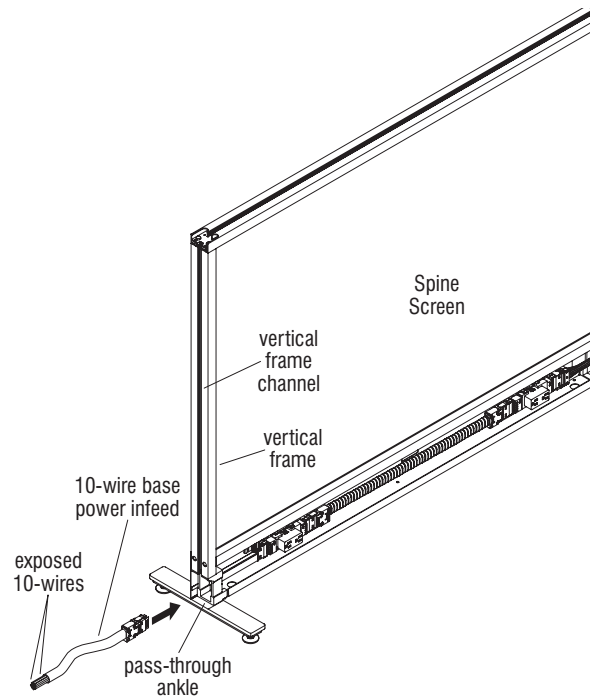

Figure 17
2. At the bottom of the screen frame which will receive base power infeed, route the plug end of the 10-wire base infeed conduit through the pass-through ankle and plug it into the end of the 10-wire rigid wireway (Figure 17).